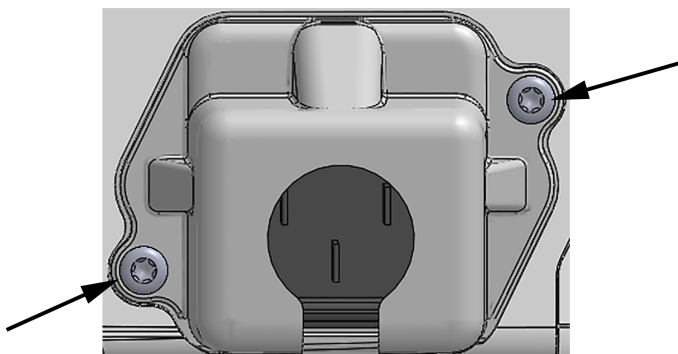

Figure 3-5: HemoSphere advanced monitor power entry cover - screw locations
1. If the power entry cover is already installed, remove the two screws (Figure 3-5 on page 70) that attach the power entry cover to the rear panel of the monitor.